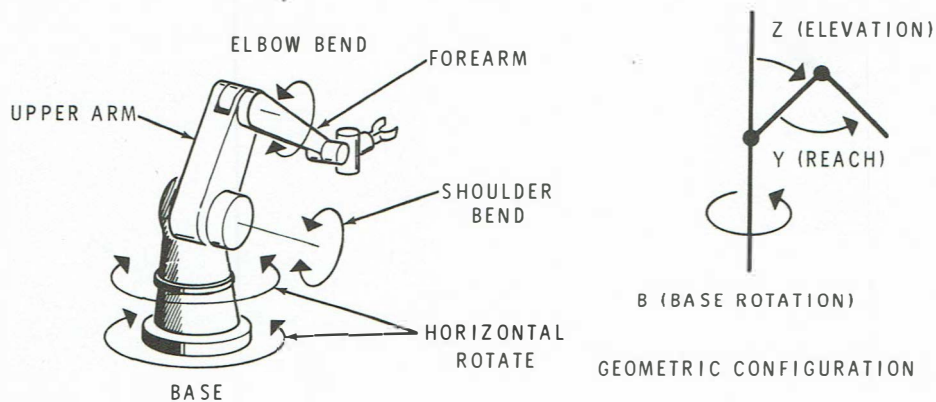

Figure 1-8
**JOINTED-SPHERICAL COORDINATE ROBOT** — A base plus an upper arm and forearm which move in the vertical plane through the base. A jointed-spherical coordinate robot is shown in Figure 1-8. The manipulator has an “elbow” joint located between the forearm and the upper arm, plus a “shoulder” joint located between the upper arm and the base. Rotary motion in the horizontal plane can be provided either at the shoulder joint or at the bottom of the base. The work envelope forms a major portion of a sphere.